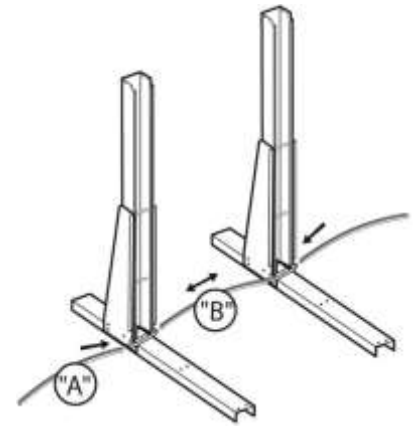

fig. 13
Situate the transitional guide in the guide rail connector (6), fig. 13, at each side of the pool. Then continue to assemble the transitional guides "A".